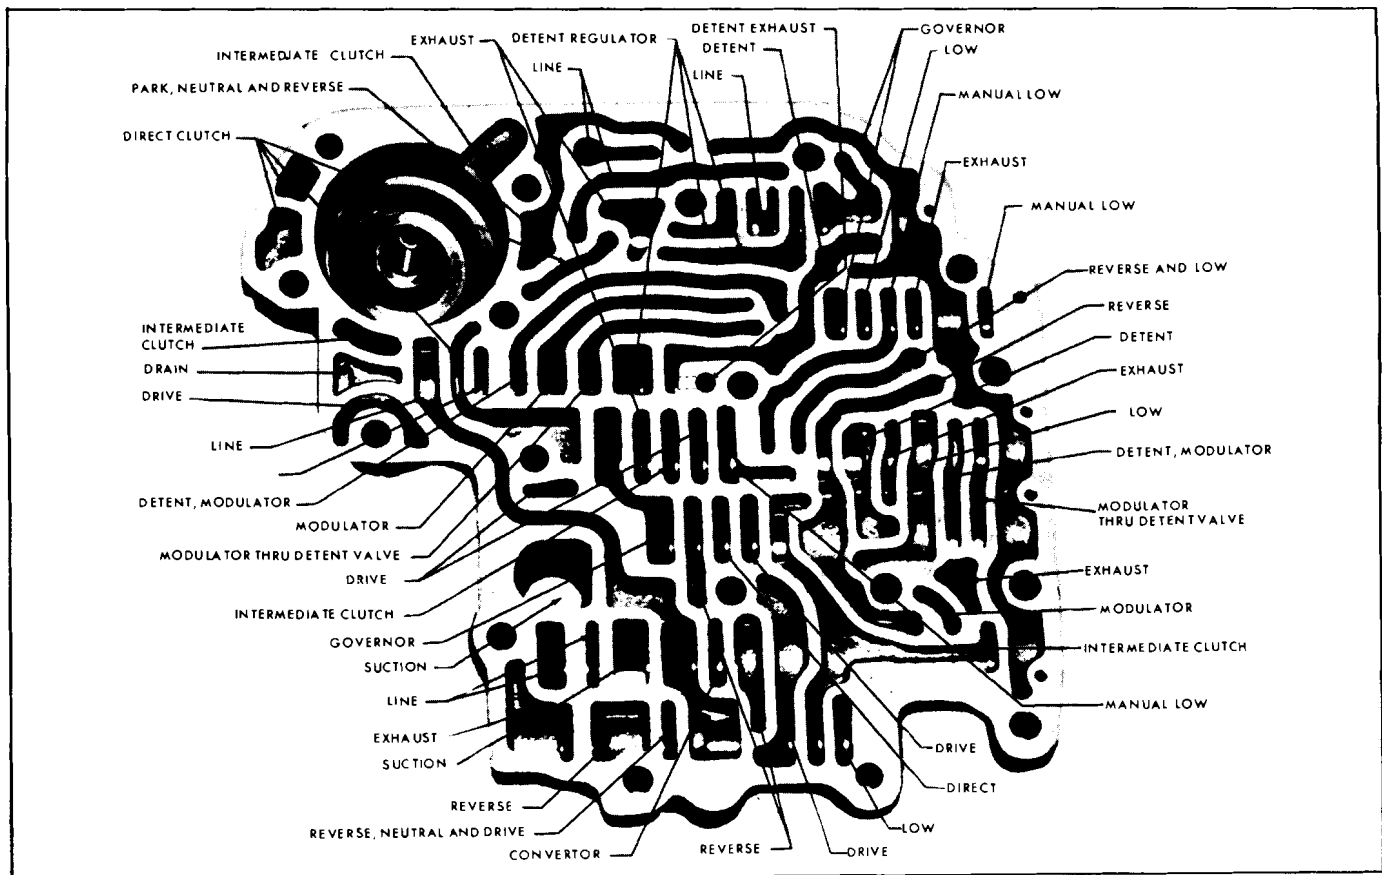

Fig. 7G-77 Valve Body Oil Passages
4. Inspect valve body for cracks, scored bores, interconnected oil passages and flatness of mounting face (Fig. 7G-77).